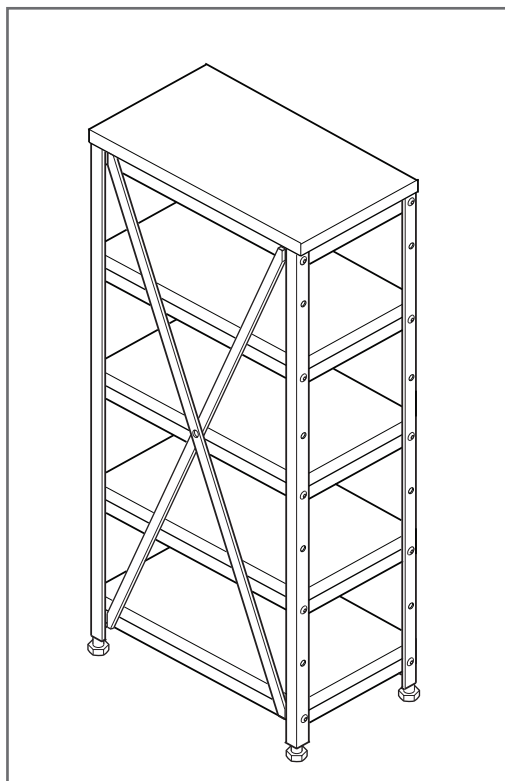

Figure 7
10. Attach the x-brace to the back of the shelf unit using the remaining four button head cap screws (F) and four remaining nylock nuts (G) (Figure 7).